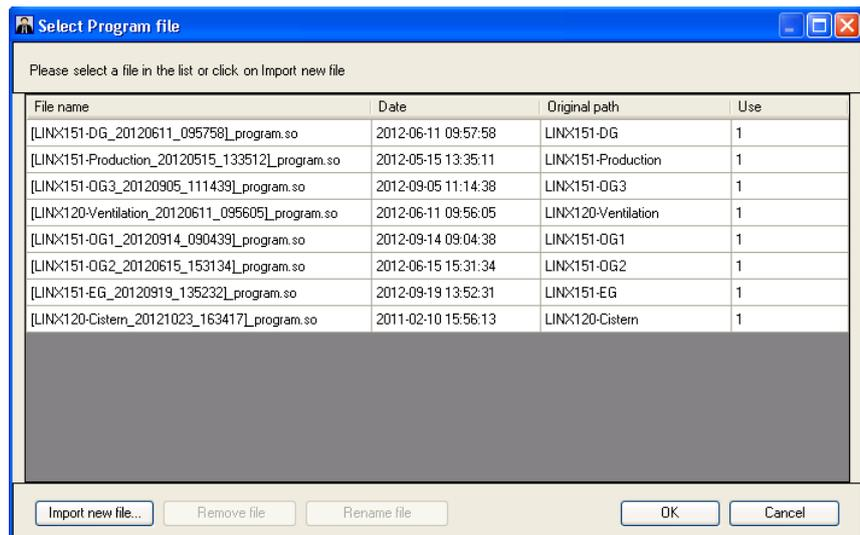

Figure 199: Select Program File Dialog
3. The **Select program** dialog opens as shown in Figure 199. The dialog displays a list of program files available in the LWEB-900 database. If the desired program file is already available in the list, select it and press **OK**.